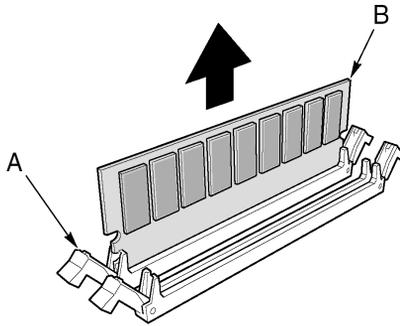

Figure 28 - Removing a DIMM
- 2 Locate the DIMM you want to remove and gently push down on the plastic ejector levers (Figure 28, A) to eject the DIMM from its socket.